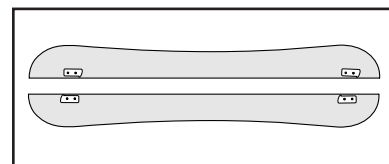

FIGURE 13
3.) With straight edge of board halves on the inside, pivot the interlocking hooks onto the board so they are clear of the edge of the board half. (See Figure 13)